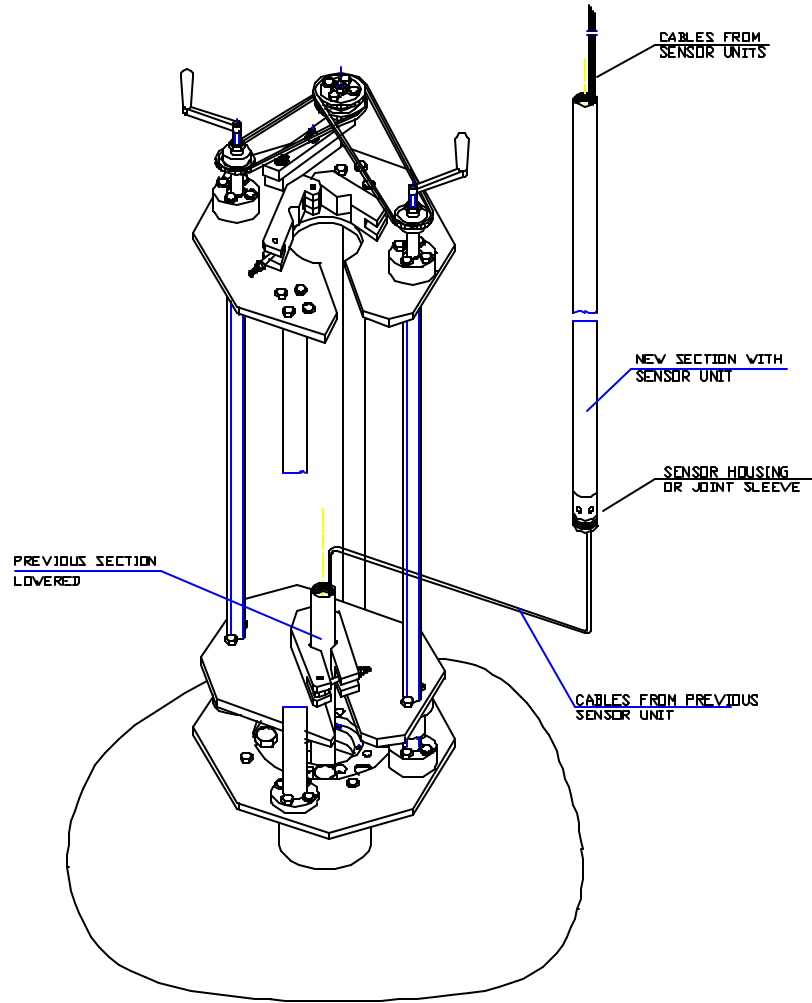

Figure 19
16. Repeat Steps 13-17, until the top of the **Second Section** is approximately 10-30 cms above the **Moving Plate**, which should be in the completely lowered position (*see Figure 19 on next page*).